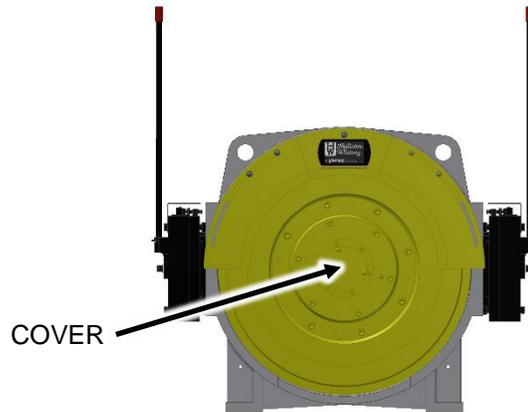

Figure 18
1. Remove the cover shown in Figure 18.